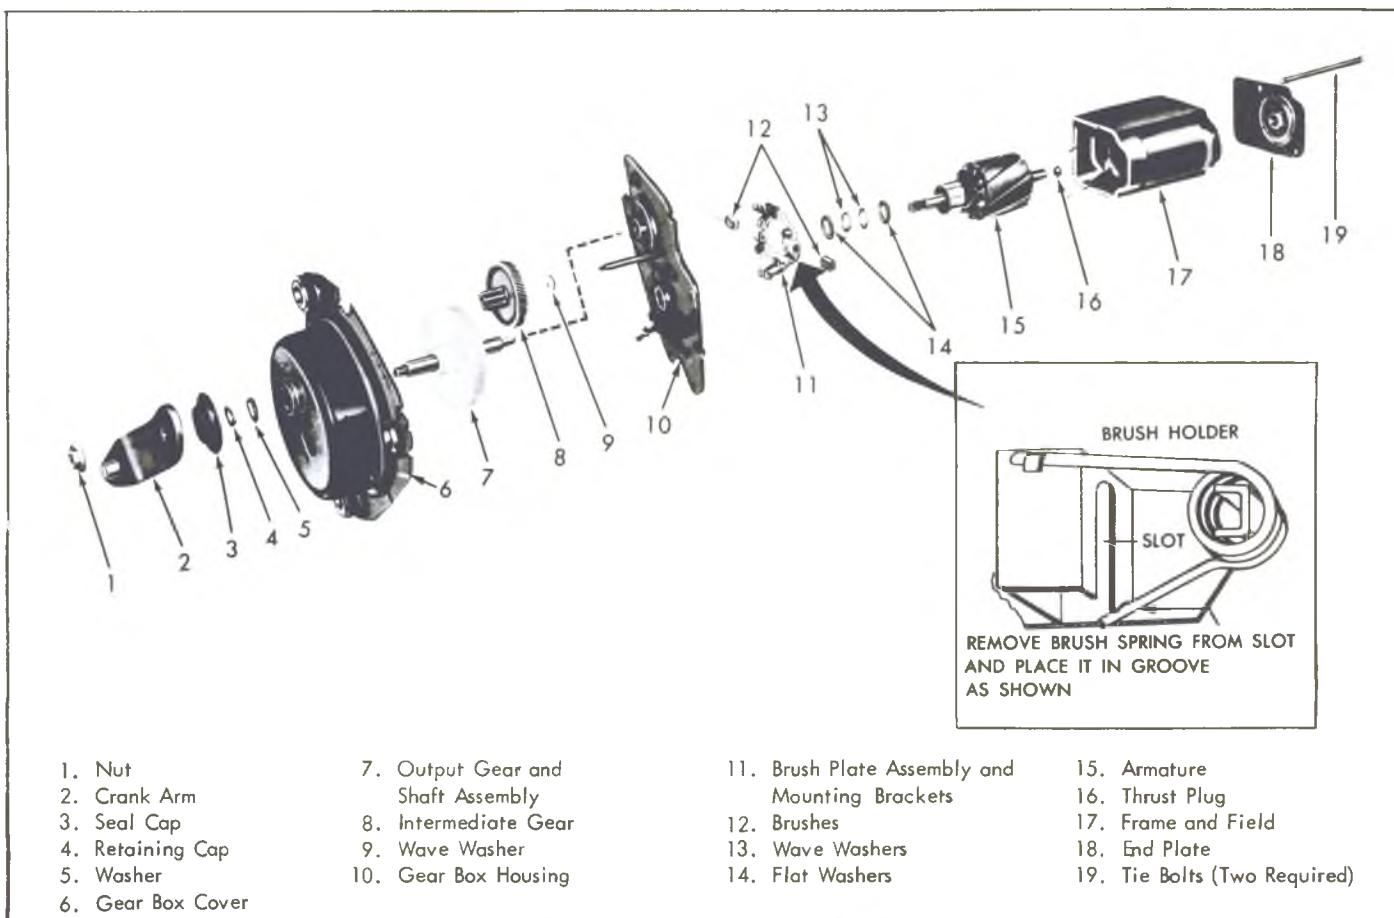

Fig. 40--Wiper Motor and Gear Box Assembly
Disassembly (Fig. 40)
3. Remove brush spring tension (fig. 40), slide armature and end plate from motor frame. Pull end plate from armature.
Refer to Figure 40 for exploded view of motor and gear train.